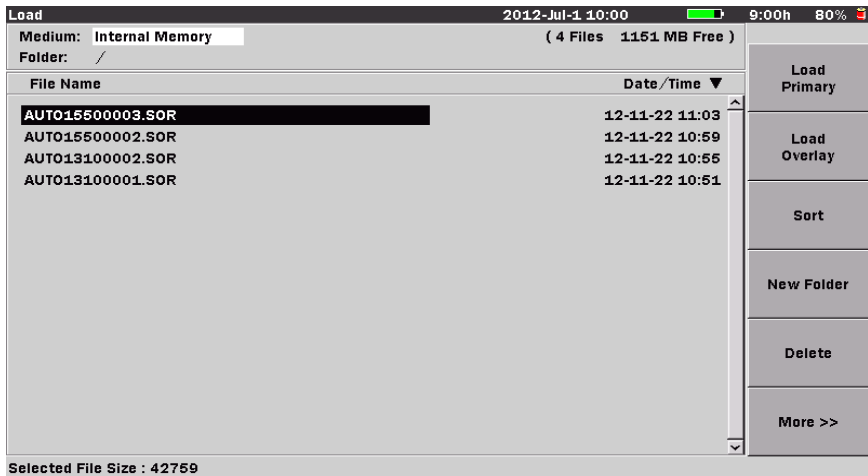

Figure 4-35: Load Screen
1. Press the **File** key, the Load screen appears (see Figure 4-35 on page 4-90).
Use either the Save screen (see Figure 4-39 on page 4-100) or the Load screen (see Figure 4-35 on page 4-90) to delete any data files stored in the internal memory or on a USB memory stick. You can delete a single file, multiple files or all of the files in the current directory.
1. Press the **Save key**, or the **File key**, if not already displaying either the Save screen (see Figure 4-39 on page 4-100) or the Load screen (see Figure 4-35 on page 4-90).
Use either the Save screen (see Figure 4-39 on page 4-100) or the Load screen (see Figure 4-35 on page 4-90) to copy data files stored in the internal memory or on a USB memory stick. You can copy a single file, multiple files or all of the files in the current directory.